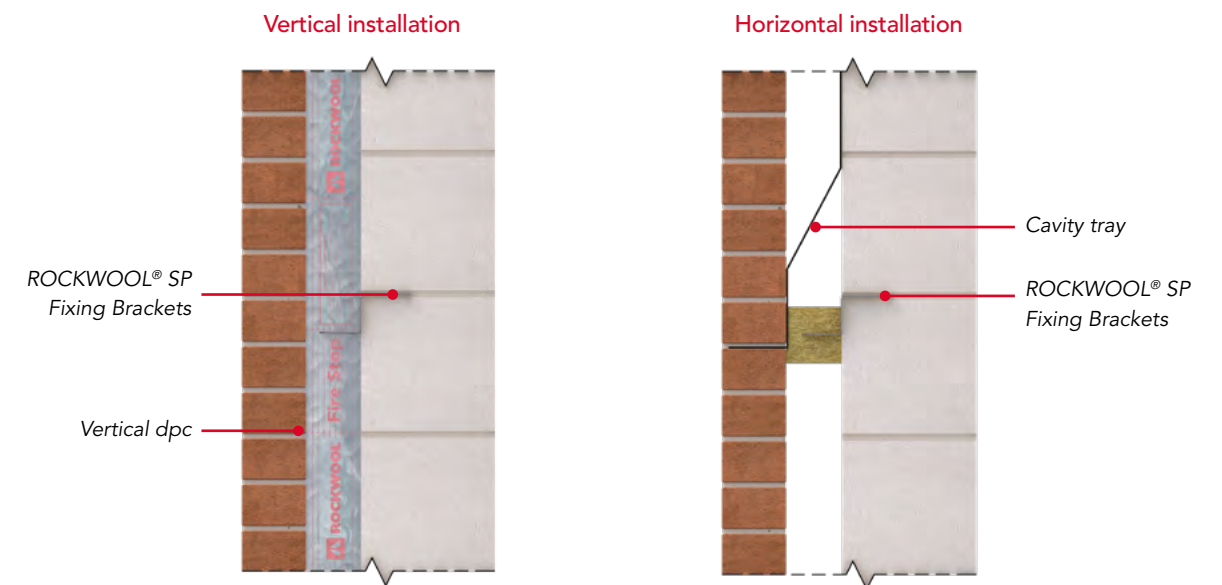

Figure 5
4. Work on both leaves can then be continued and must include either a vertical damp proof course (vertical installation) or a cavity tray (horizontal installation) installed over the SP Firestop Slab as shown in Figure 5.